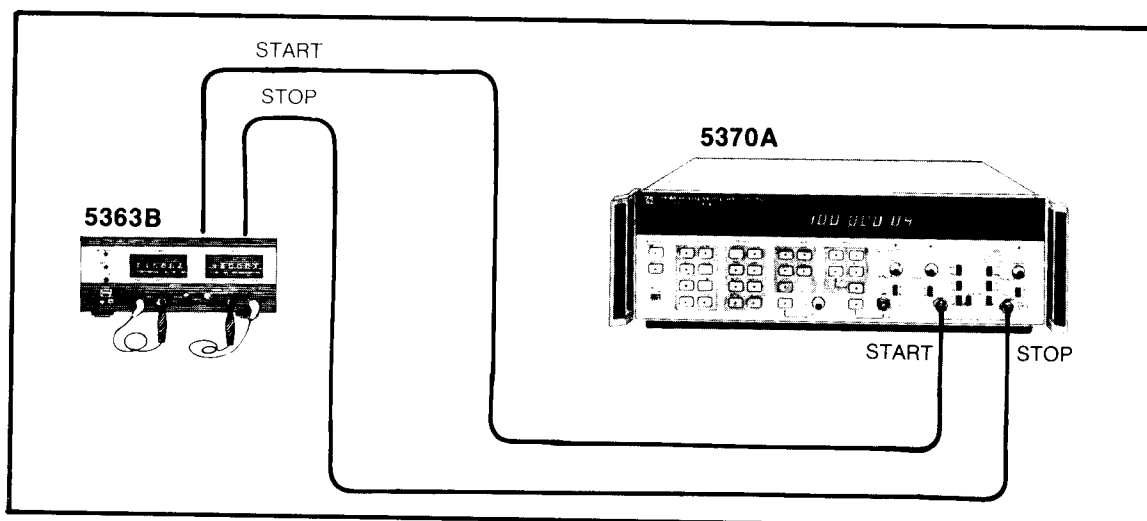

Figure 3-3. 5363B Time Zero Calibration Setup
- a. Connect the 5363B START/STOP outputs to the 5370A START and STOP channels. Refer to *Figure 3-3*.